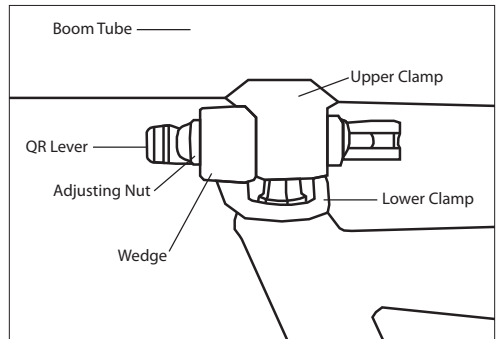

Fig. 23: Parts of the DirectConnect™ frame quick release (shown in closed position above).
4. When the frame is almost completely unfolded, firmly pull the frame straight. The spring loaded Wedge will “click” into place over the Upper Clamp of the frame (Fig. 23).
5. Make sure the Wedge is completely engaged. It should hold the Upper and Lower Clamps together, and the frame should no longer fold (Fig. 23).
1. Make sure your bicycle is in the unfolded position with the frame quick release Wedge properly seated over the Upper Clamp (Fig. 23).